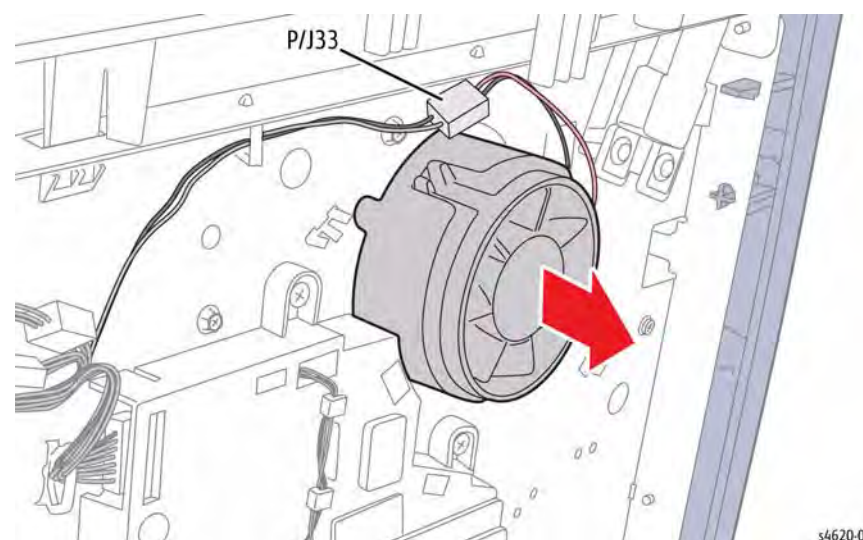

Figure 1 Remove the Left Side Chassis Fan
5. Disconnect P/J33 to remove the fan, Figure 1.